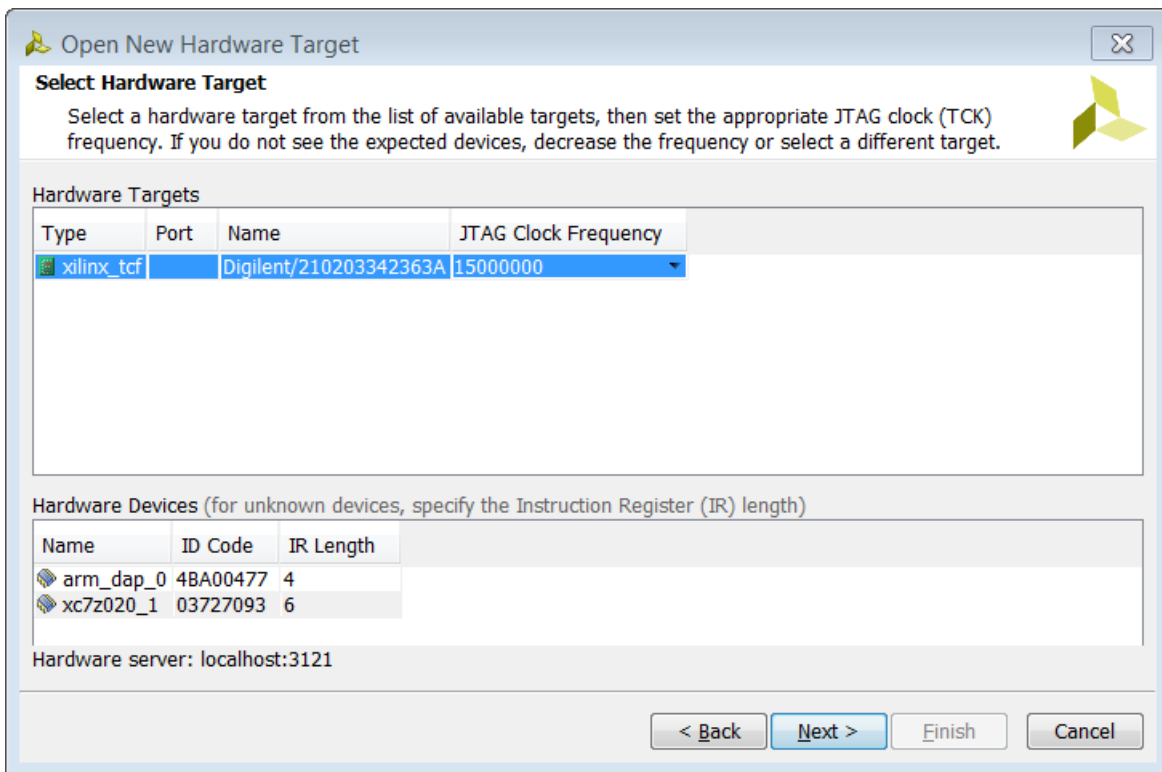

Figure 84: Select Hardware Target
6. On the Select Hardware Target screen (FIGURE 84), click **Next**.